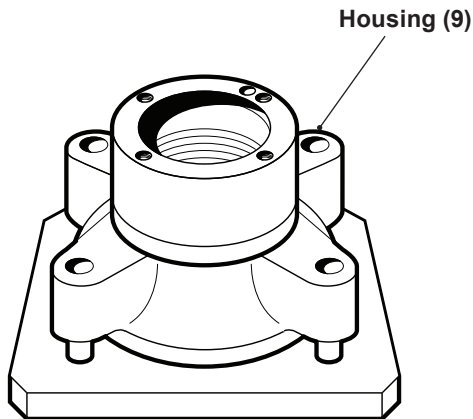

Figure 7, Motor Housing
1. Mount seal (5), washer (4), and ball bearing (3) onto output shaft (7). *See page 11.*
2. Install check valves (11), and needle bearing (12). *See page 12.*
3. Rotate the motor housing (9) so that the front (output shaft end) is pointing upward. *See figure 7.*